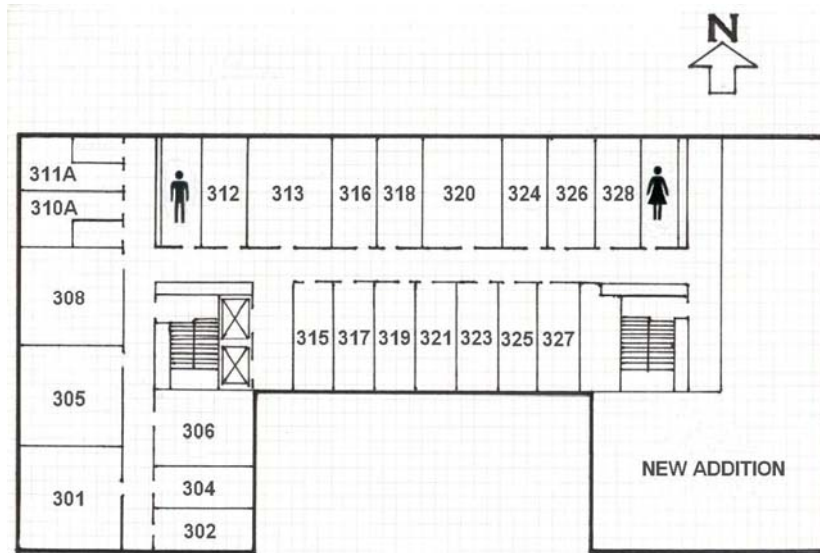
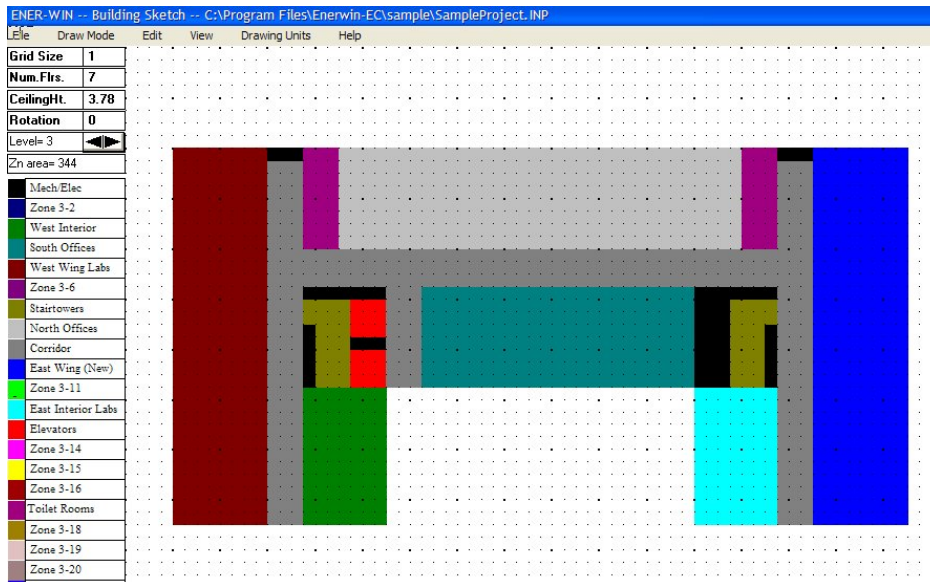

Fig. 9 Typical floor plan of sample building for floors 3 through 9
Fig. 10 Sketch representation of floors 3 through 9 of building in Figure 9
- **Zone colors and zone names:** The screen contains 25 boxes, each showing a color and a zone name. The default name of each zone is “Zone” followed by (level number) – (zone number). For example, Zone 5-23 represents the 23rd zone on level 5. It is highly recommended that these default zone names be replaced for each zone drawn. Easily recognized zone names will lower the chances of misinterpreting values for each zone, both at the input stage and the output of HVAC sizes after the run is complete. The method of drawing a zone is to first edit in the zone name and then IMMEDIATELY draw that zone by dragging a rectangle on the grid matrix. If nothing is drawn the zone name will disappear. This is intentional, so that when any zones are erased intentionally by the user at a later time, the zone name will disappear from the list; then it becomes available as a zone that can be used. The maximum number of zones on any level is 25 and the maximum number of zones in the whole building is 98. A zone may be only one room, but it is convenient (while retaining accuracy) to let a zone represent a group of similar rooms. For the example, using the actual building from the sketch in Figure 9, the floor plan is represented in Ener-win in Figure 10 by having 7 to 12 offices per zone indicated, thus saving a lot of sketching time and computer time.